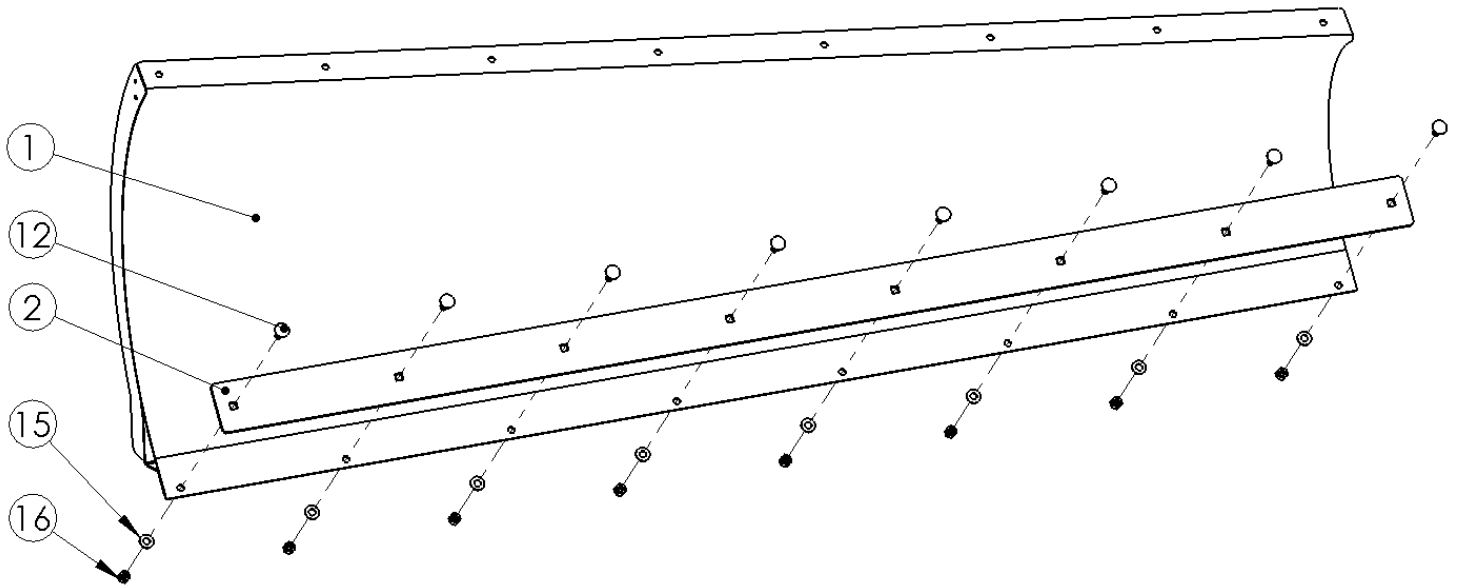

Figure 1
1) Install the 72" Wear Bar to the 72" Plow Blade as shown in Figure 1.